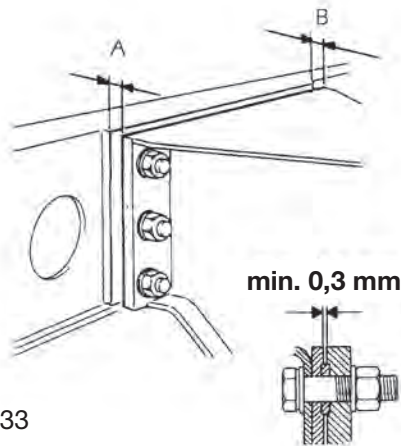

Fig. 33
- Make sure that once the bolts are tightened, a space (min 2.5-3 mm) remains between the headboard beam plate and the bridge beam attachment plate (figure 33).
The dimensions A and B (shown in fig 33) may be different from each other; this difference does not affect the alignment between the wheel axles of the heads and the orthogonality between the heads themselves and the beams, which is determined by the machining of the alignment bush seats.